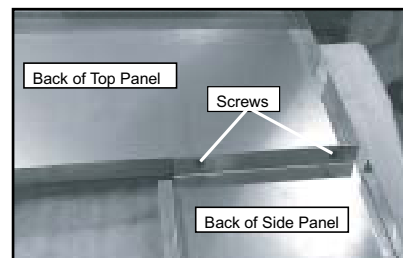

Figure 20.3
1. Secure the top panel to the panel sides with the screws provided. **Figure 20.3.**